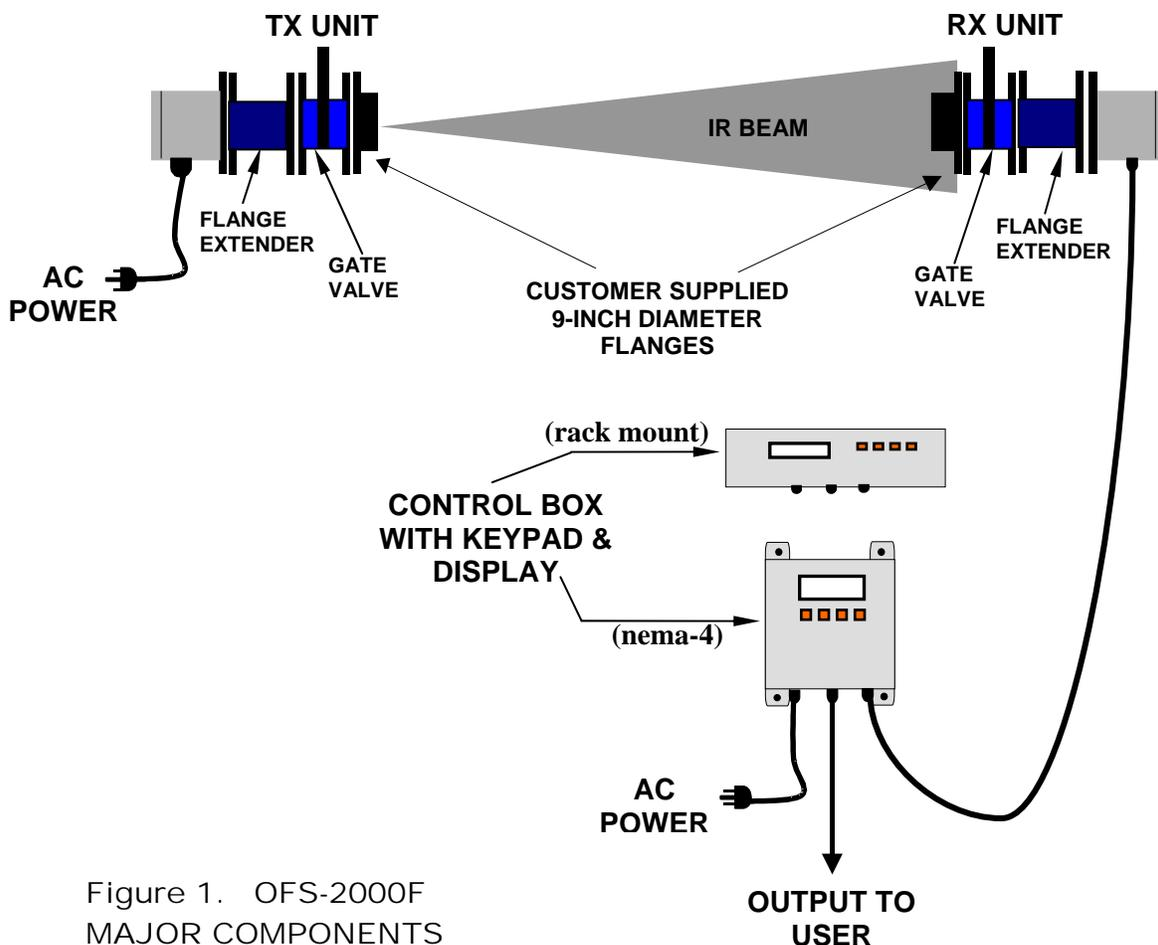

Figure 1. OFS-2000F MAJOR COMPONENTS
The OFS-2000F is composed of three main elements, the Transmitter (TX) Unit (P/N 1910-100), the Receiver (RX) Unit (P/N 1910-200), and the Control Box (P/N 1910-301 for nema-4, P/N 1910-500 for rack mount). The relationship of units is shown in Figure 1.